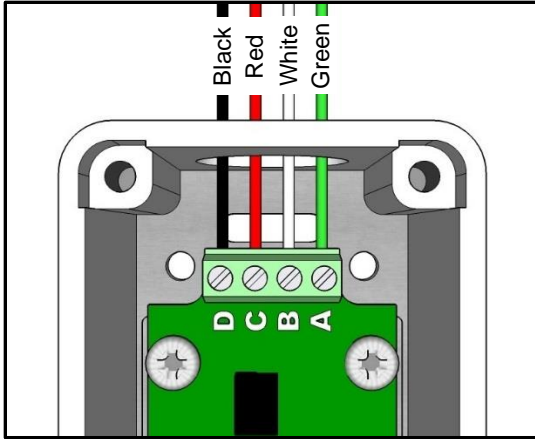

Figure 29
- 2** In the 4 wire safety circuit from junction box near each opening is a black, red, white, and green wire. Connect the 4 wires to the terminal block in the RDI interlock at the first opening. **(see Figure 29)**